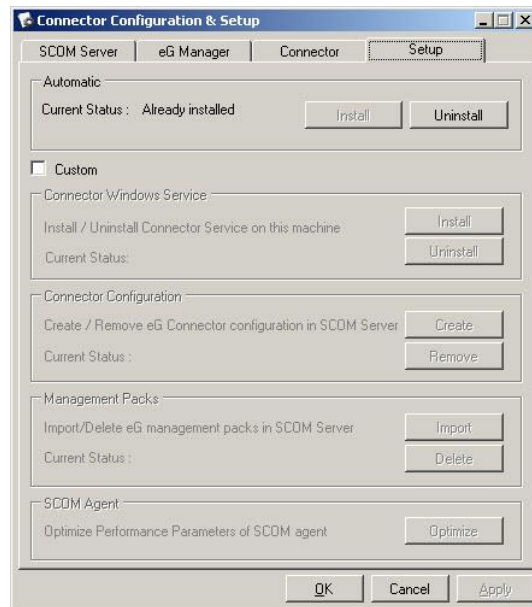

Figure 6.1: Clicking on the Setup tab page for uninstalling the connector configuration
- Switch to the **Setup** tab page of the **Connector Configuration & Setup** dialog box that then appears (see Figure 6.1). Click the **Uninstall** button therein to uninstall the configuration.